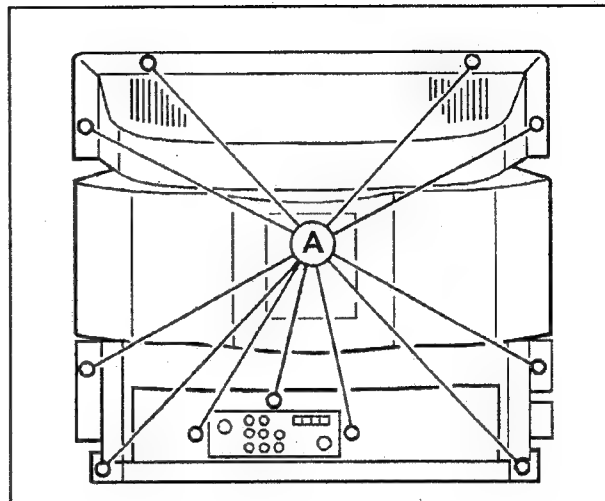

Fig. 1
1. Unplug the power supply cord and remove the eleven screws marked **A** shown in Fig. 1